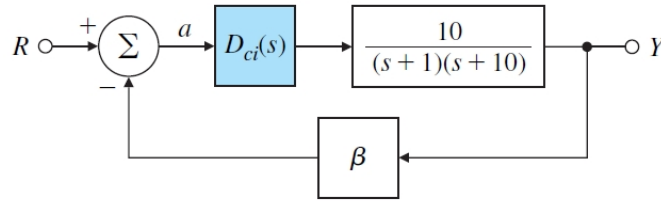

Figure 2: Control system.
**Problem 2.** You are given the system shown in Fig. 2, where the feedback gain  $\beta$  is subject to variations. You are to design a controller for this system so that the output  $y(t)$  accurately tracks the reference input  $r(t)$ . Let  $\beta = 1$ . You are given the following three options for the controller  $D_{ci}(s)$ :